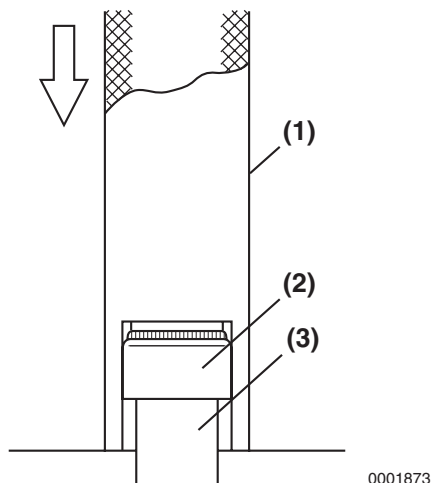

Figure 6-28
1. Oil the lip of the valve stem seal (Figure 6-28, (2)). Using the valve stem seal installation tool (Figure 6-28, (1)), install a new valve stem seal on each of the valve guides (Figure 6-28, (3)).